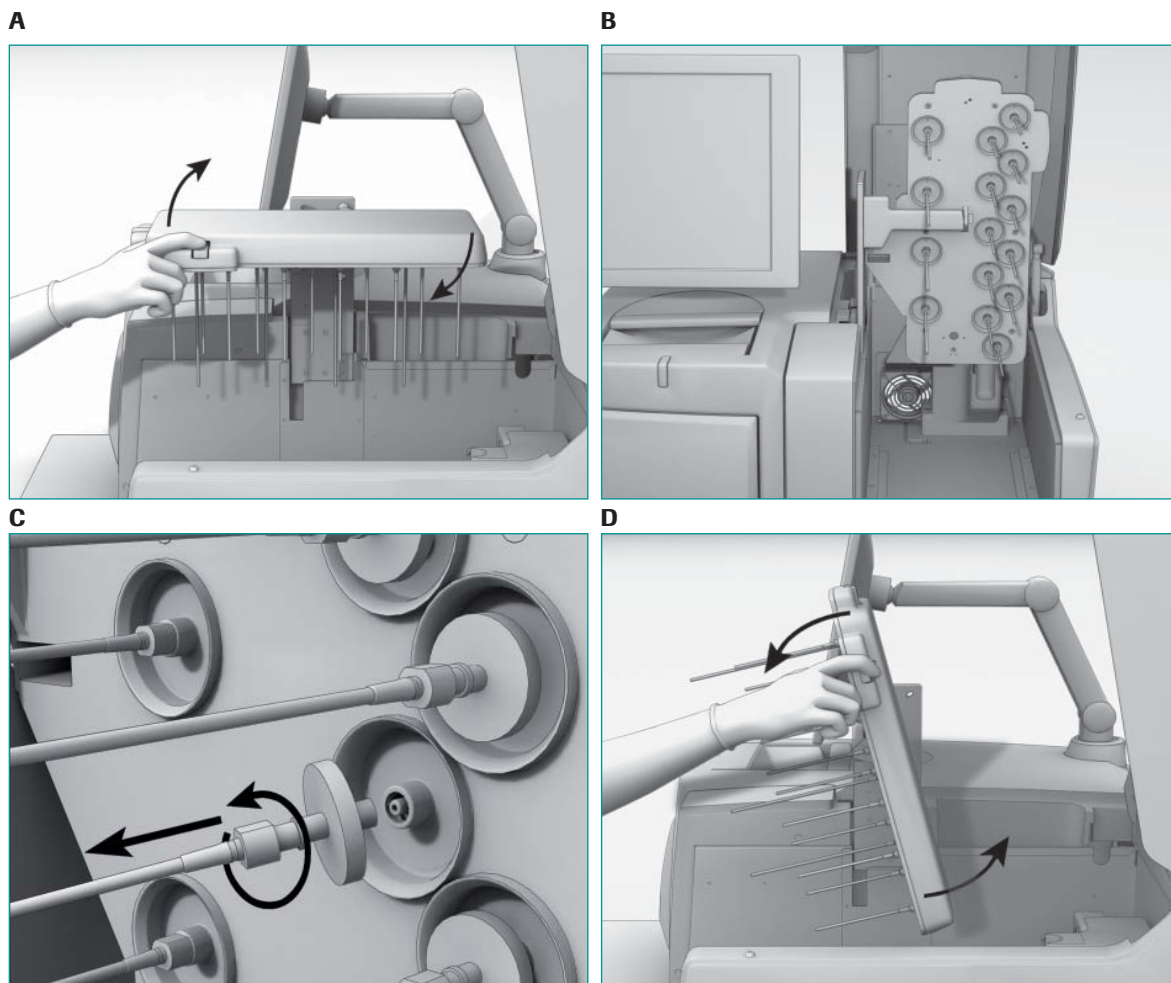

Figure 6: Replacing Sipper Tubes
- 3 Using the rotate button (button **B**), rotate the sipper manifold (Figure 6 **A**). Be sure to hold the sipper manifold securely while rotating it, as it is counter-weighted. The underside of the sipper manifold holds 11 short, filtered Sipper Tubes on the right hand side and 4 longer Sipper Tubes on the left hand side (Figure 6 **B**).
- 4 With your free hand, unscrew the Sipper Tube(s) you want to replace (Figure 6 **C**). Discard the old Sipper Tube(s).
- 7 When all the Sipper Tube exchanges are complete, rotate the sipper manifold back to its normal horizontal position by pressing button **B** on the sipper manifold (Figure 6 **D**).